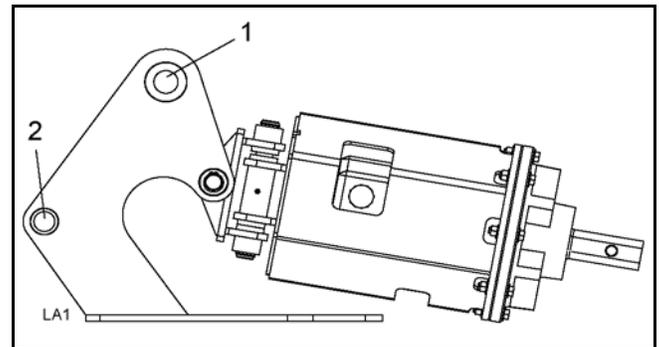

Figure 4. Attach Auger
- Position the auger as shown in Figure 4.
- Move the dipper stick of the backhoe so the primary pin bore on the dipper stick is aligned with the primary pin bore (1) on the auger.
- Activate the curl function until the curl pin bore is aligned with the curl pin bore (2) on the auger.